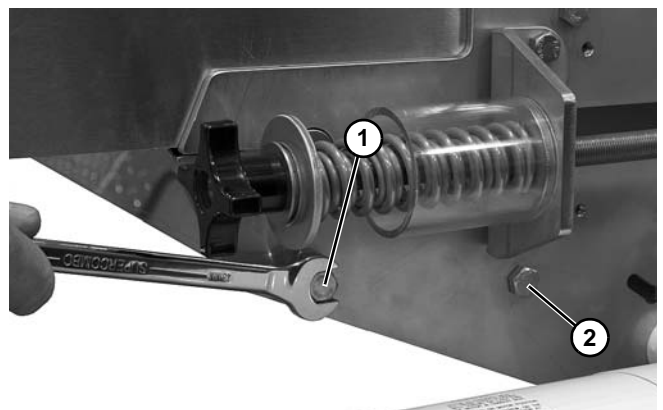

Figure 51
8. Remove bolt (**Figure 51, item 1**) from each side of the center drive from the idler guard assembly.
9. Loosen bolt (**Figure 51, item 2**) on each side of the center drive.